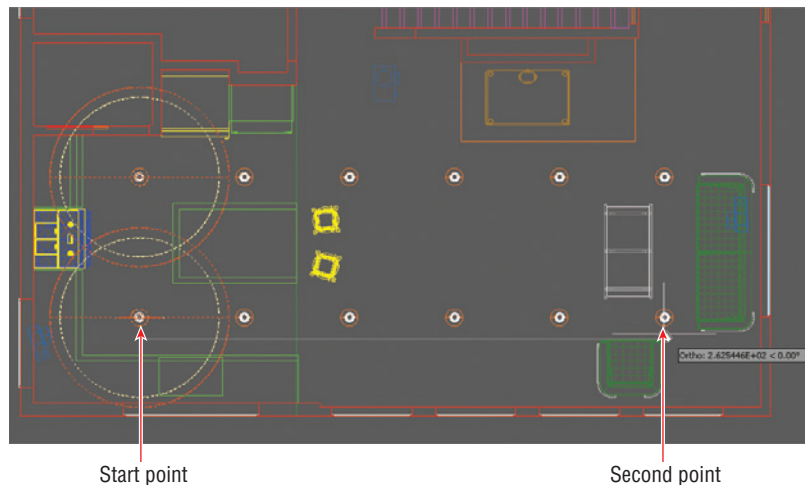

FIGURE 18.9 Copying spotlights in a rectangular array
12. Type **F** (for Fit), and press Enter. Move the cursor under the rightmost light fixture (see Figure 18.9), and click to specify the second point of the array. Press Enter to exit the ARRAY command.